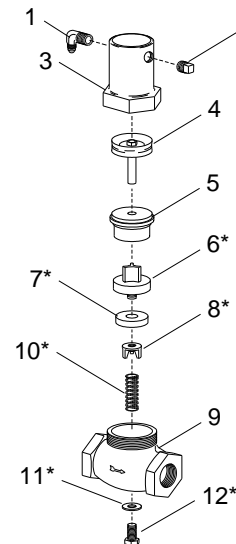

Figure 49
9.3 TLR Piston Outlet Valve, Figure 49